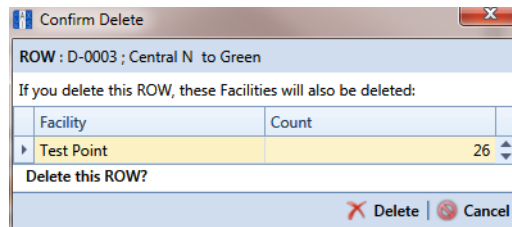

Figure 4-9. Confirm Delete
- 2 Click **Delete** to open the *Confirm Delete* dialog box (Figure 4-9, page 136). Or, right-click the selected pipeline in the hierarchy tree and select **Delete** in the shortcut menu to open the *Confirm Delete* dialog box.
NOTE: The *Confirm Delete* dialog box identifies the pipeline and number of associated facilities to be deleted in the *Count* column (Figure 4-9, page 136).